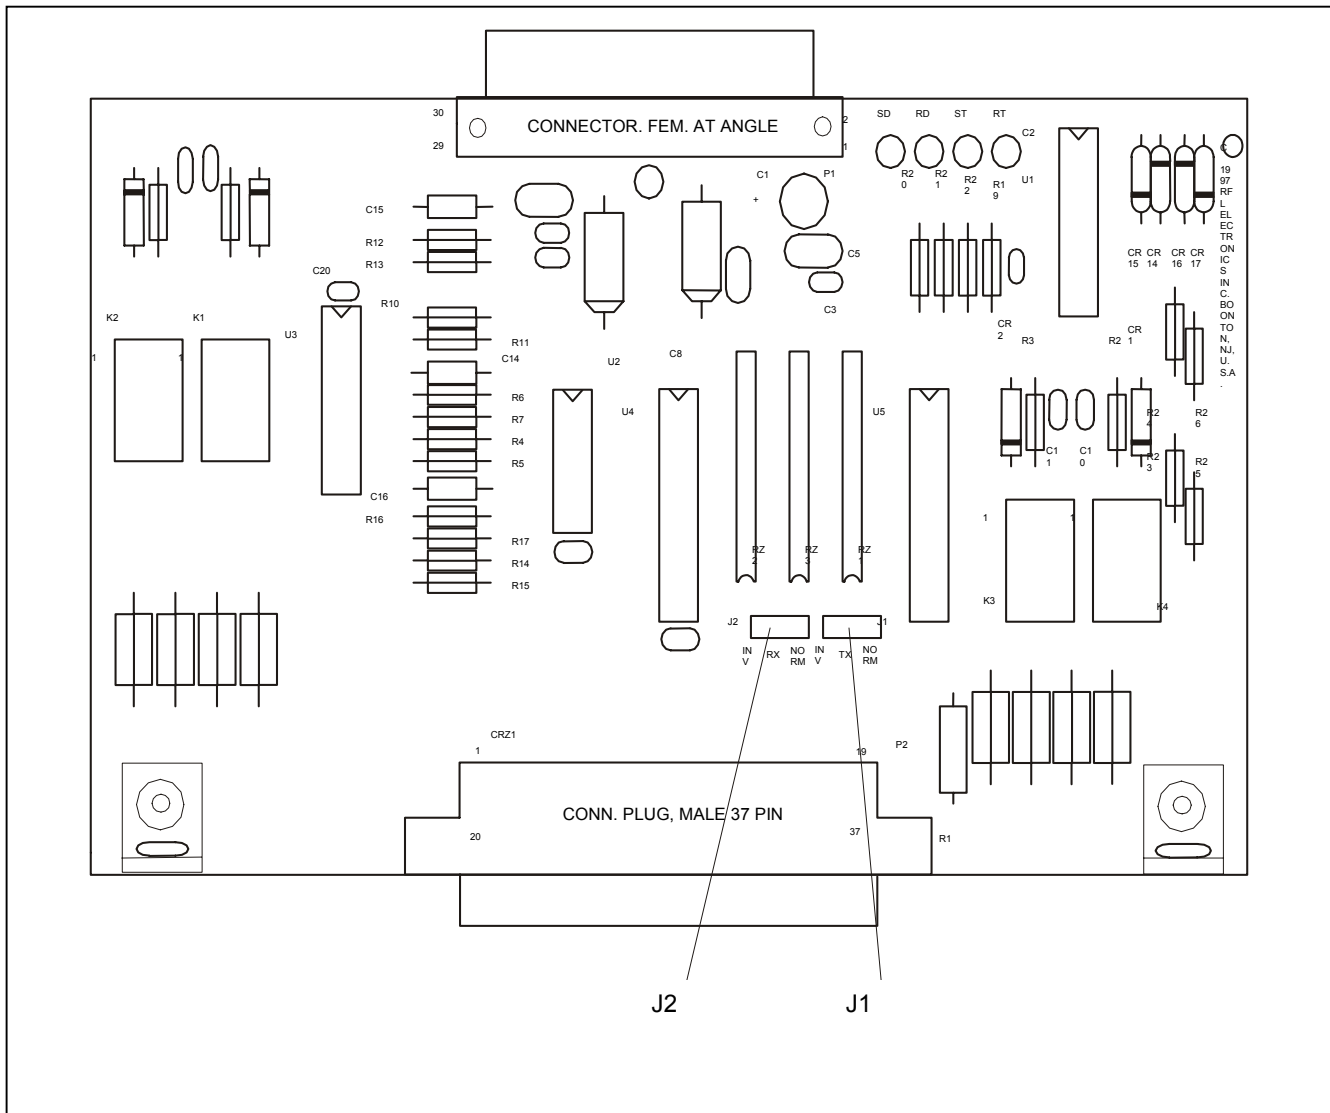

Figure 3-25. Location of jumpers on the RS-449 Interface Module
- A. The programmable jumpers on the RFL 9745 RS-449 interface module, as shown in Figure 3-25, shall be positioned as follows: